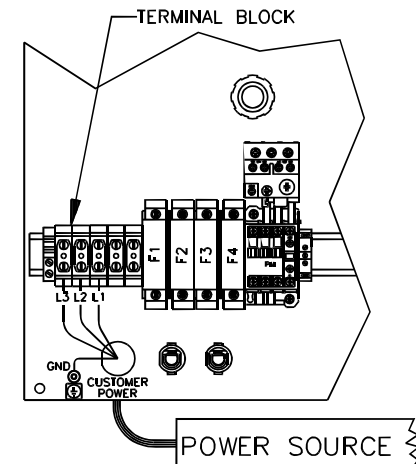
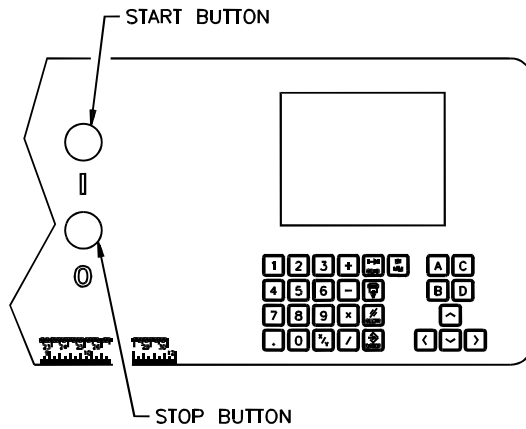

Figure 2-21. Power Panel
Figure 2-22. CMT 330 Console
2. Remove the four screws that mount the door to the machine and set the door aside. The terminal block is located at the lower, left-hand corner of the power panel. The ground screw is located beneath the terminal block as shown in Figure 2-21.
7. Fasten the ground lead to the ground terminal lug, labeled GND in Figure 2-21.
8. Fasten the three power leads to the three terminals **L1**, **L2**, and **L3** (Figure 2-21) on the main power terminal block.
9. Replace all panel doors. Make sure the shop air hose is connected to the machine and shop air is switched on. Open the lower, rear door and switch the main, air disconnect valve to the on (I) position and close the door.
10. Unlock and switch on (I) the main power disconnect.
11. Switch on (I) the machine's power.
12. Press the green start button key on the console, shown in Figure 2-22. The hydraulic motor should turn on. The machine was shipped with all three knives in the down position. If power is hooked up correctly, the knives will automatically raise to the up position. If power is incorrectly connected, the knives will remain in the down position. Continue at step 13 if the knives do not